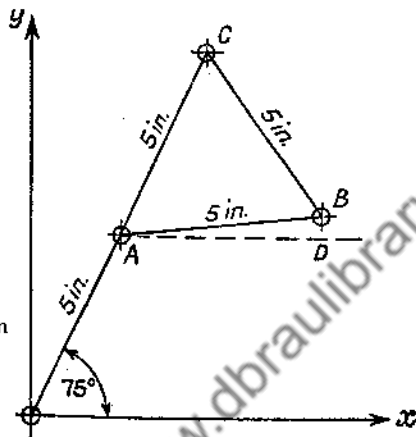

Fig. 50
(3) Calculate the co-ordinates of the points A, B and C in fig. 50.